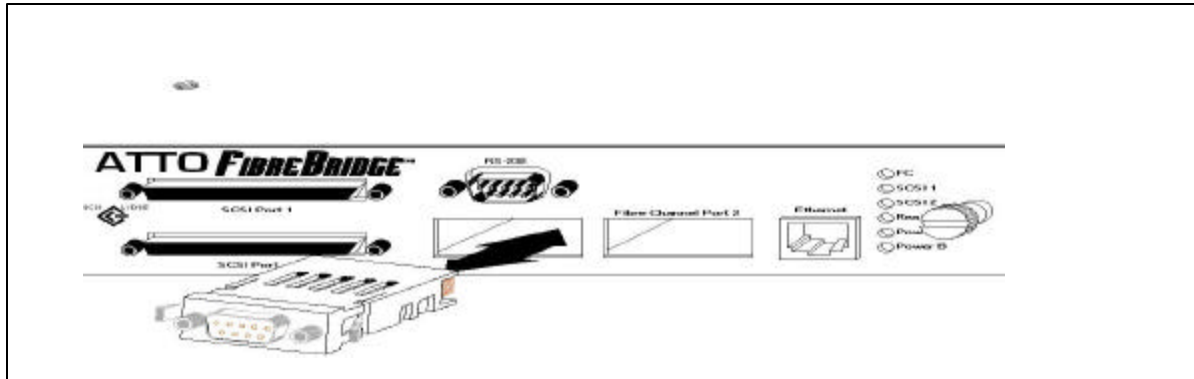

Figure 6.5 GBIC Installation
1. Orient the GBIC as shown in Figure 6.5. The keyway is ON THE BOTTOM for the port insertion.